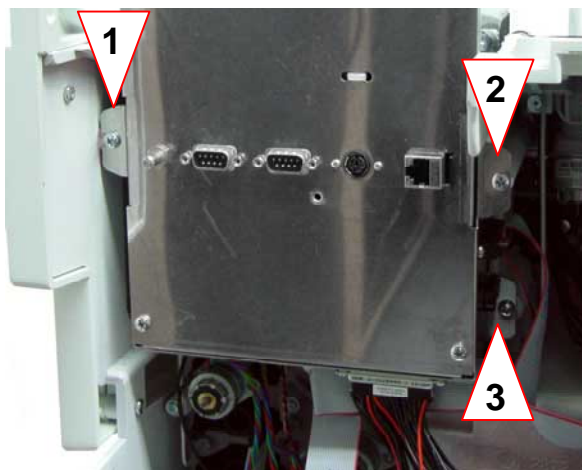

Fig. 3-39 PC tower (rear view)
4. Remove the mounting screws of the PC tower (see Fig. 3-39, 1 to 3).